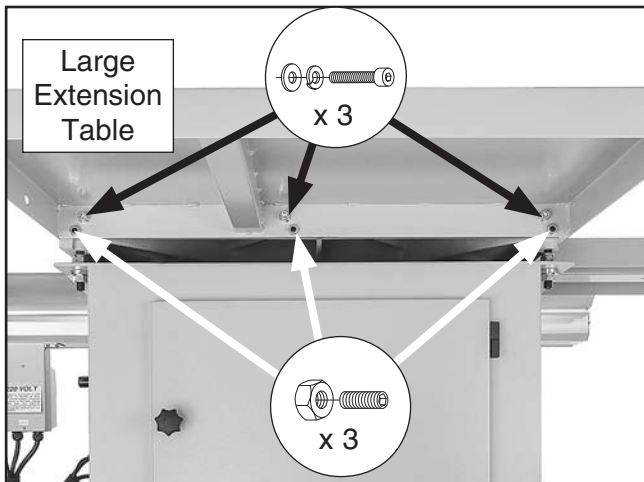

Figure 23. Large extension table attached to cabinet.
- With help from another person, attach large extension table to cast-iron table with (3) M10-1.5 x 25 cap screws, (3) 10mm lock washers, and (3) 10mm flat washers (see **Figure 23**). Finger-tighten only, for now.
- Thread (3) M10-1.5 x 20 set screws with (3) M10-1.5 hex nuts shown in **Figure 23**.
- If both tables are *not* parallel with straight-edge, loosen hex nuts on set screws shown in **Figure 23**. Adjust set screws to align top of extension table with top of cast-iron table, then re-tighten hex nuts to secure setting.